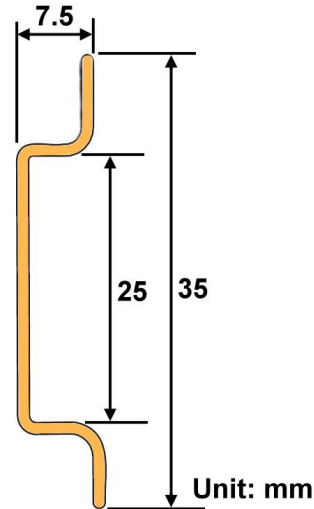

Figure 2.4.3
2. Please use the suitable DIN-Rail to install, please refer to the dimensions of the DIN-Rail.(Figure 2.4.3)